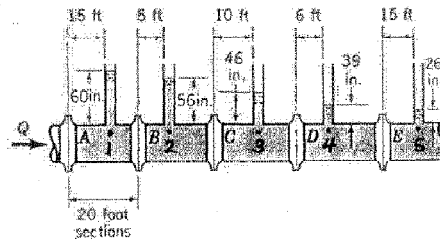

FIGURE P8.23
8.23 Oil flows through the horizontal pipe shown in Fig. P8.23 under laminar conditions. All sections are the same diameter except one. Which section of the pipe (A, B, C, D, or E) is slightly smaller diameter than the others? Explain.